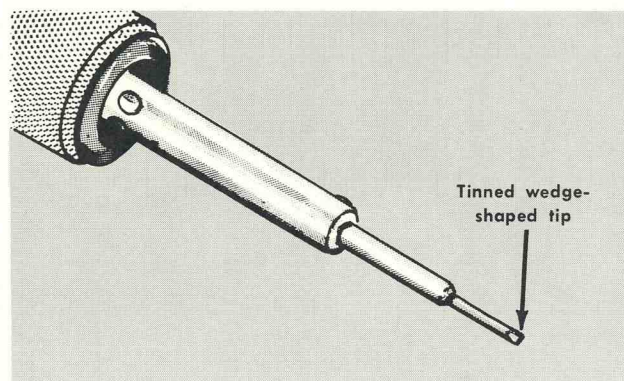

Fig. 4-1. Soldering iron tip properly shaped and tinned.
Because of the shape of the terminals on the ceramic terminal strips, it is advisable to use a small diameter wedge-shaped tip on your soldering iron when installing or removing parts from the strips. A wedge-shaped tip allows you to apply heat directly to the solder in the terminals and reduces the amount of heat required. It is important to use as little heat as possible. Fig. 4-1 shows the correct shape for the tip of the soldering iron. Be sure to file smooth the surfaces of the tip before tinning. This prevents solder from building up on rough spots where it can quickly oxidize.
2. Prepare the tip of the iron as shown in Fig. 4-1. Tin only the wedge portion of the tip, using solder containing 3% silver.